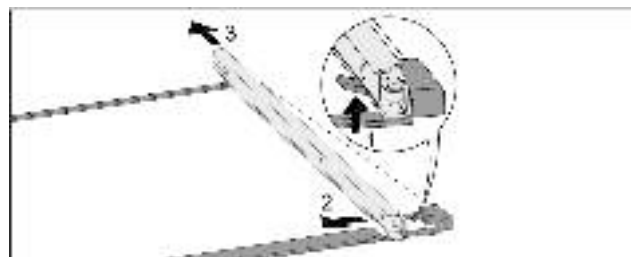

Fig. 104 Glass shelf with rails
- Push up front click-in hooks. Fig. 104 (1)
- Slide pull-out rails to the side Fig. 104 (2) and back-wards Fig. 104 (3).